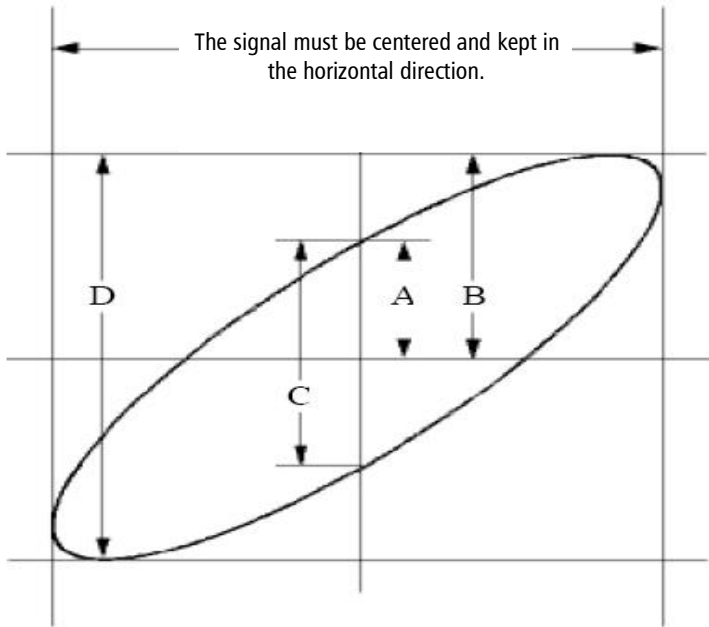

Figure 6- 6 Lissajous Graph
- (1) Set the probe menu attenuation coefficient for **10X** and that of the switch in the probe for **10X** (see "*How to Set the Probe Attenuation Coefficient*" on P- 12 -).
- (2) Connect the probe of channel 1 to the input of the network and that of Channel 2 to the output of the network.
- (3) Push the **Autoset** button, with the oscilloscope turning on the signals of the two channels and displaying them in the screen.
- (4) Turn the **Vertical Scale** knob, making the amplitudes of two signals equal in the rough.
- (5) Push the **Acquire** button to display the right menu.
- (6) In the right menu, select **XY Mode** as **ON**. The oscilloscope will display the input and terminal characteristics of the network in the Lissajous graph form.
- (7) Turn the **Vertical Scale** and **Vertical Position** knobs, optimizing the waveform.
(8) With the elliptical oscillogram method adopted, observe and calculate the phase difference (see Figure 6- 6).